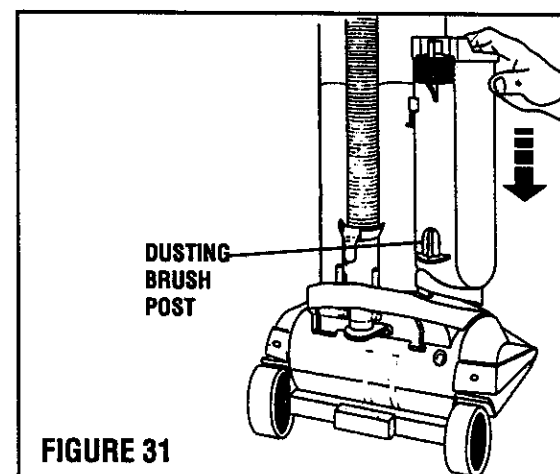

FIGURE 31
4. When the two positions are aligned, slide the Filter Housing downward until the Filter Housing Latch Button click-locks into place. (Figure 31)